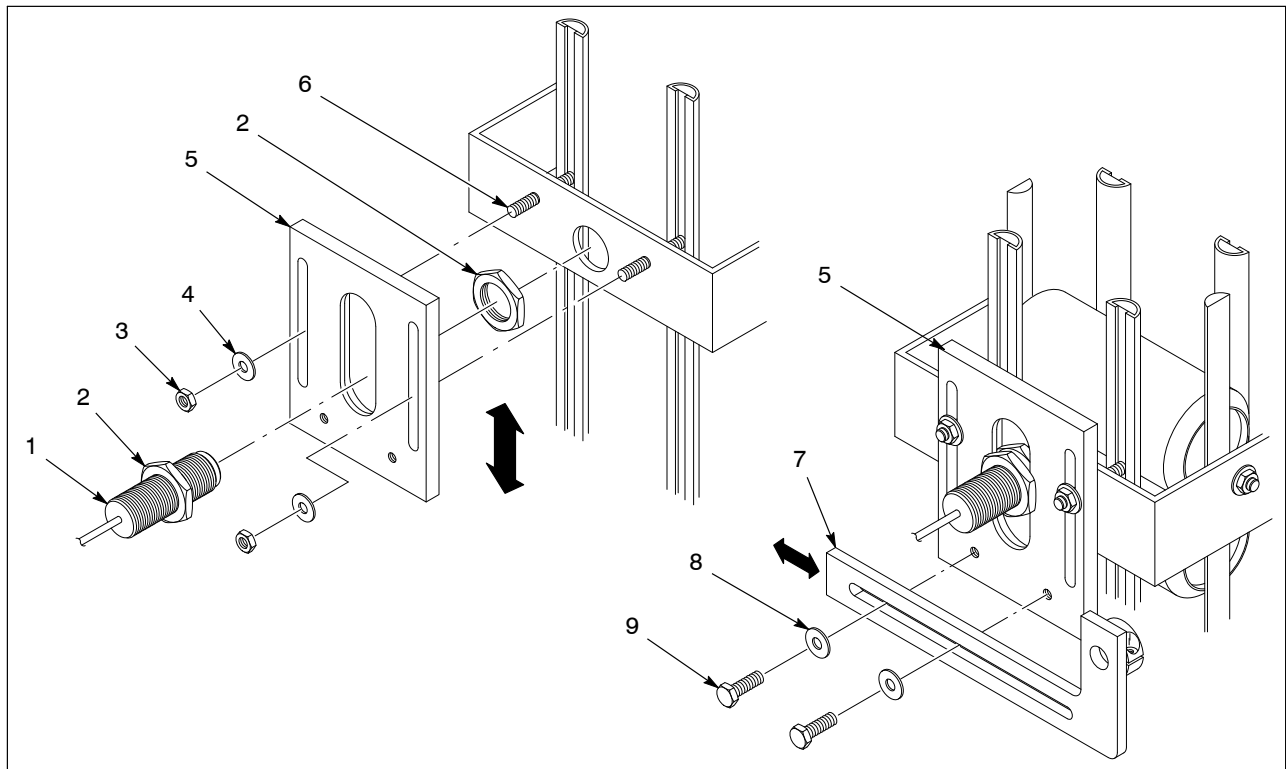

Figure 3 Adjustable Gun Bracket Mounting
1. See Figure 3. Unscrew one locking nut (2) from the end of the proximity sensor (1).
2. Insert the proximity sensor through the center slot of the mounting bracket (5). The center slot has a lip that holds the locking nut securely in place.
4. Align the slots on the mounting bracket with the studs (6) on the rail and install the washers (4) and nuts (3). Tighten the nuts to hold the mounting bracket in place.
5. Secure the adjusting rod (7) to the mounting bracket (5) with the clamp screws (9) and washers (8).
7. Loosen the set screw (10), and rotate the gun mount until the gun is in the desired position in relation to the can. Tighten the set screw.
8. See Figure 3. Slide the adjusting rod (7) forward or back to adjust the distance from the gun nozzle to the can, then tighten the clamp screws (9).